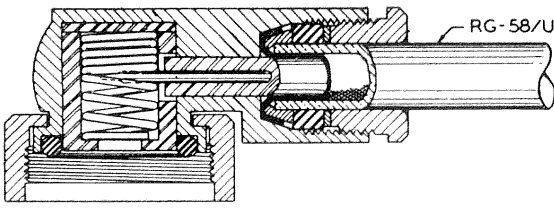
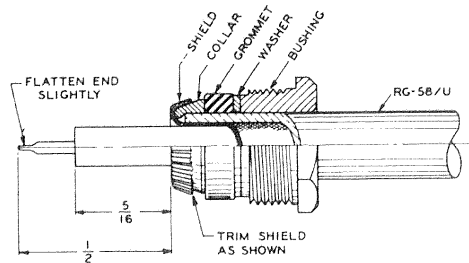

Fig. 4-3
Fig. 4-4
Fig. 4-3 shows construction of the dc plugs P-602. Fig. 4-4 shows proper service of RG-58/U cable for these plugs. To remove cable from this plug unscrew the bushing and pull cable out. The center conductor of the cable makes tight contact between turns of the coil spring when assembled.
- (1) Slip the bushing, washer, and grommet over end of cable
- (2) Remove outer insulation 9/16 inch from end.
- (3) Slip collar over shielding (unbraided).
- (4) Fold back braids and trim as illustrated, Fig. 4-4.
- (5) Remove inside insulation to dimension shown.
- (6) Flatten end of center conductor to sharp chisel edge, push into dc plug P-602, aligning edge with turns of coil spring.
- (7) Push in grommet and washer and screw bushing down snugly.